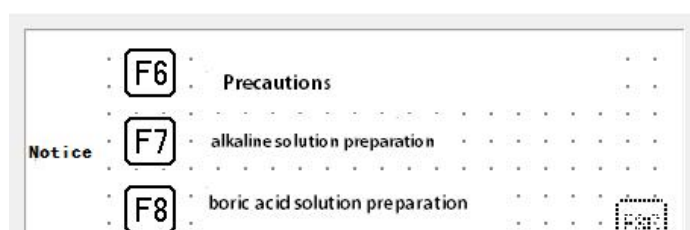

Figure 6-8
- F. Precautions and reagent preparation (see Figure 6-8)